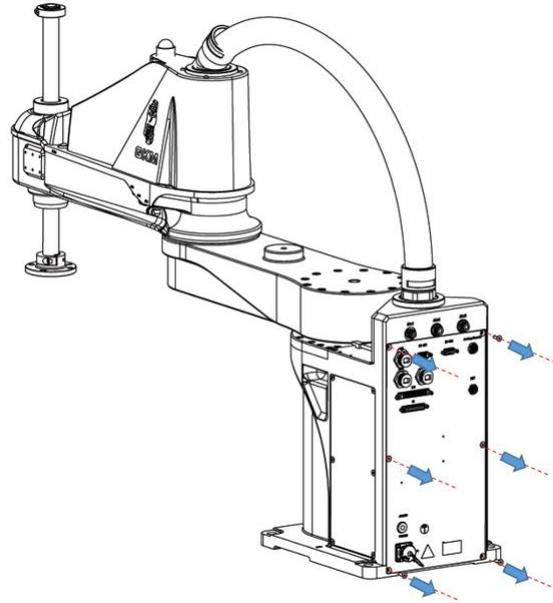

Figure 4-10 Remove the fastening screws from the connector panel
Step 1 Use 2.5 mm Allen wrench to remove the fastening screws from the connector panel, as shown in Figure 4-10.